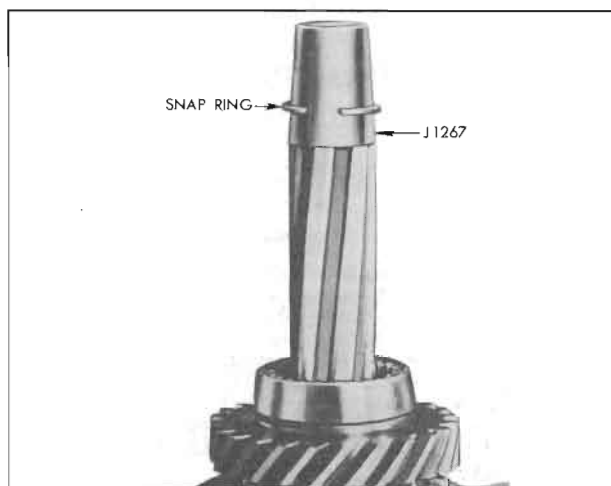

Figure 4-38—Snap Ring Replacer J 1267
(8) *Main Shaft Snap Ring.* Use Snap Ring Replacer J 1267 to install the snap ring and avoid distorting ring. See figure 4-38.
(9) Install the first and reverse sliding gear so that the "U" groove in one face of gear is toward front of transmission.